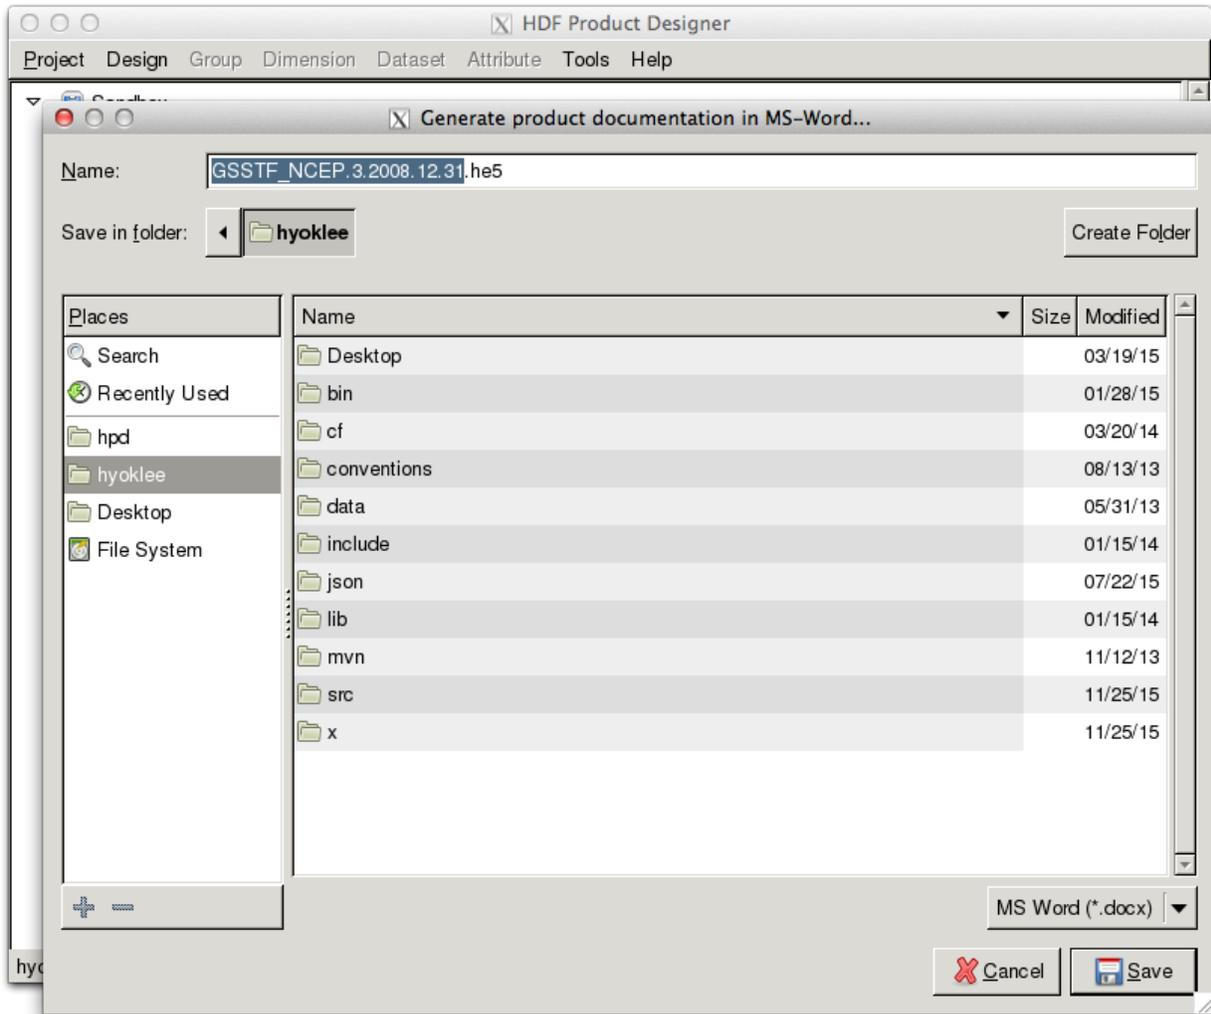

Fig. 5.31: Saving design's product documentation as a Microsoft Word file
- If no errors, a dialog window to choose a file name for the MS Word document will appear (Fig. 5.31).